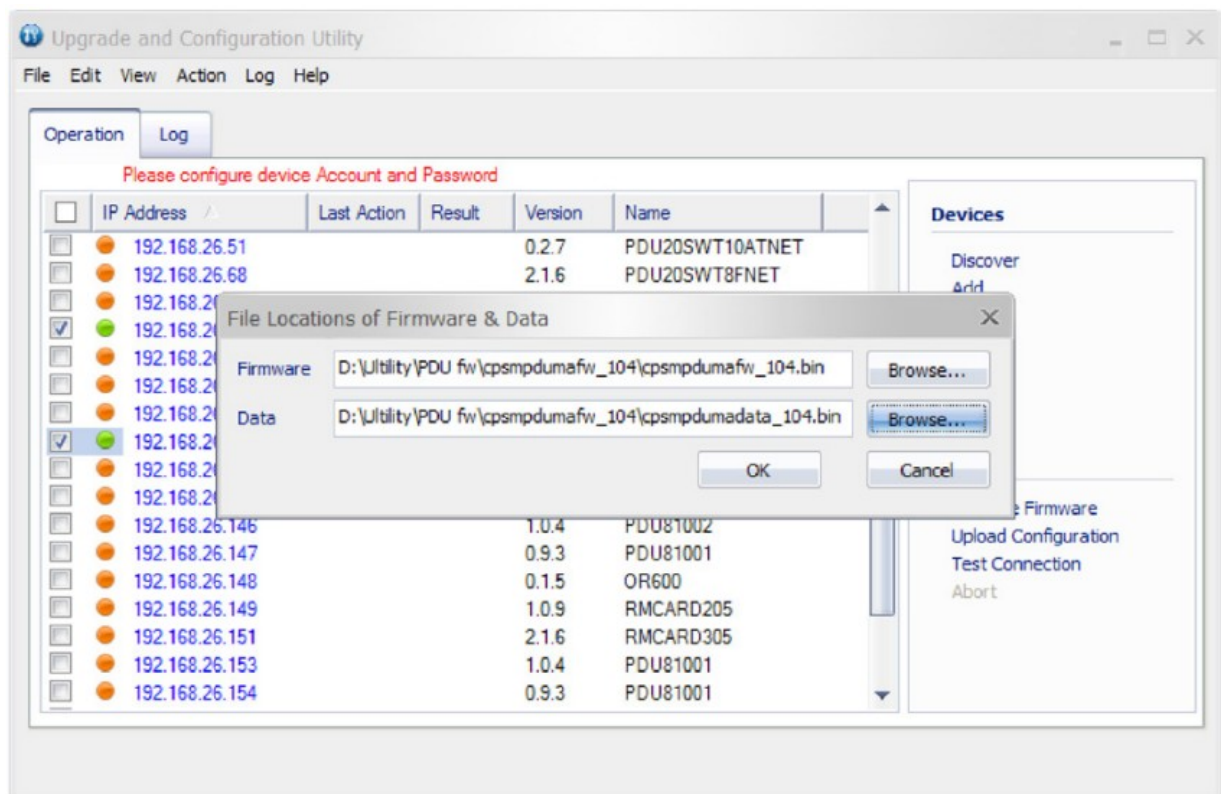

Figure 4
7. Click Browse to locate and select the firmware and data file to be updated (Shown in Figure 4).